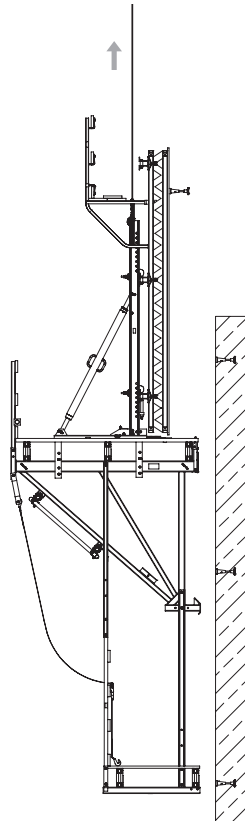

Fig. 7
- Select retracting position of the carriage so that the platform hangs horizontally when being relocated. Guide the formwork scaffolding platform with ropes and secure the console brackets after the climbing procedure has been completed. (Fig. 7)